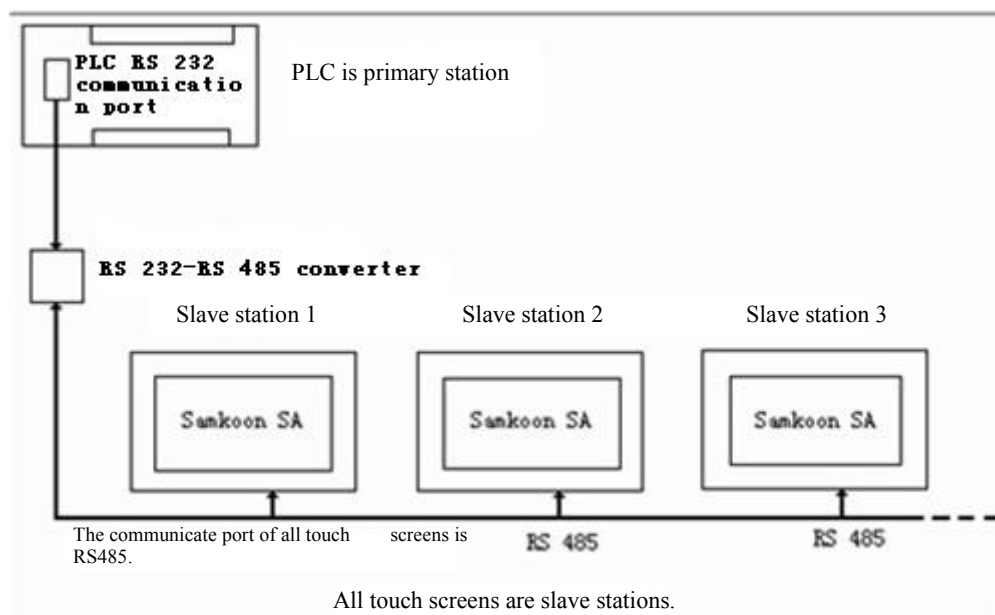

Figure 9-1 Schematic diagram of connection mode “One device with multiple screens” When PLC (RS232) is primary station
1. The communication port RS232 connected with PLC, connection method and system setting are as shown in figures 9-1, 9-2 and 9-3.